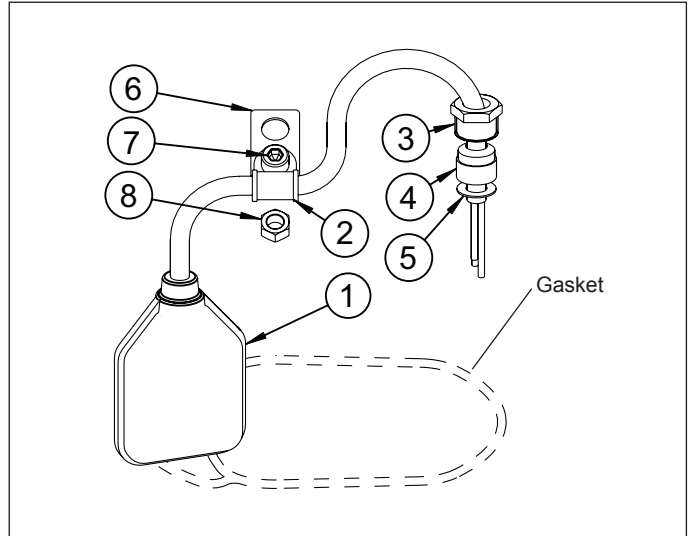

Fig. 4
- Assemble parts according to Fig. 4 (Pos. No. 6, 7, 8 are only used for Minor, Major, Senior & Sandy)